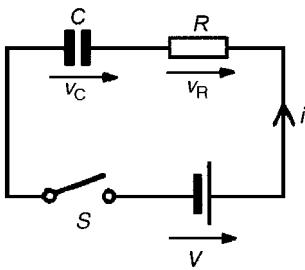

Figure 18.1
- (a) The circuit diagram for a series connected $C-R$ circuit is shown in Fig. 18.1 When switch S is closed then by Kirchhoff's voltage law: